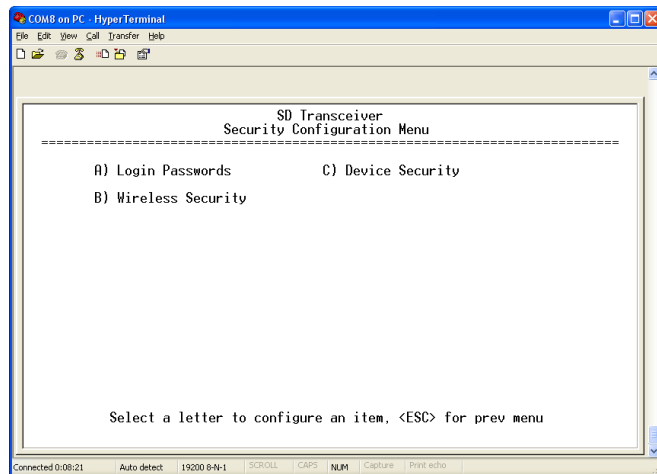

Figure 29. Password Menu
1. Select **Password** from the Security Configuration Menu. The screen changes to the Password Menu screen (Figure 29).